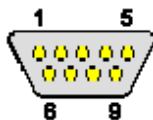

Figure 4-31: Serial Communications Connector Pinout Locations
- CN Pinouts: See Figure 4-31 and Table 4-32